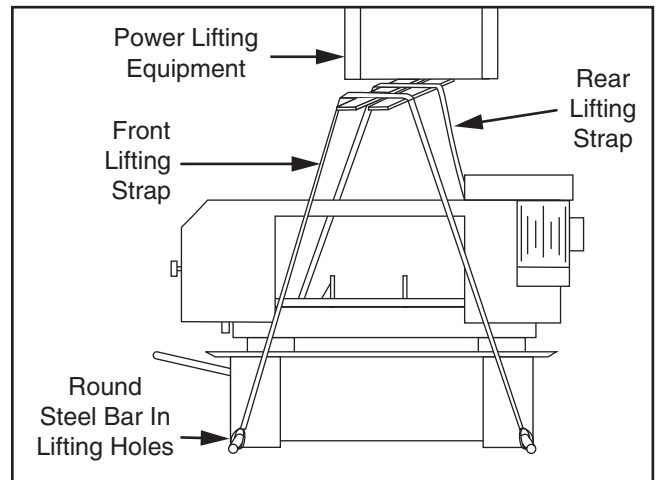

Figure 21. Example of lifting machine with forklift and lifting slings.
4. Insert round steel bar stock through (4) lifting holes in machine base (see **Figure 21**).
5. Attach lifting slings to steel bar stock and power lifting equipment (see **Figure 21**).